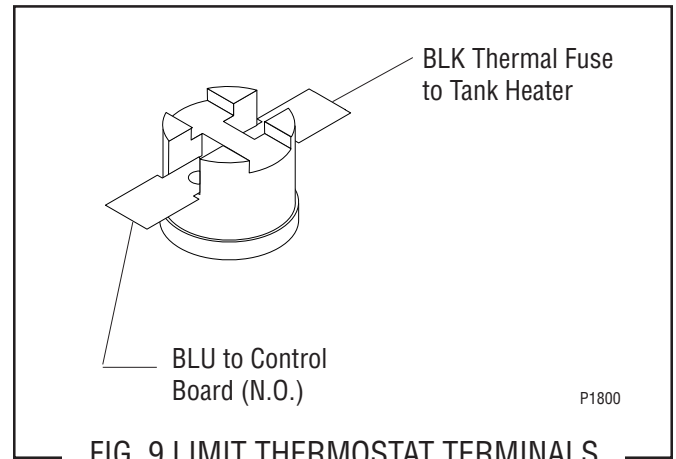

FIG. 9 LIMIT THERMOSTAT TERMINALS
4. Refer to Fig. 9 when reconnecting the wires.